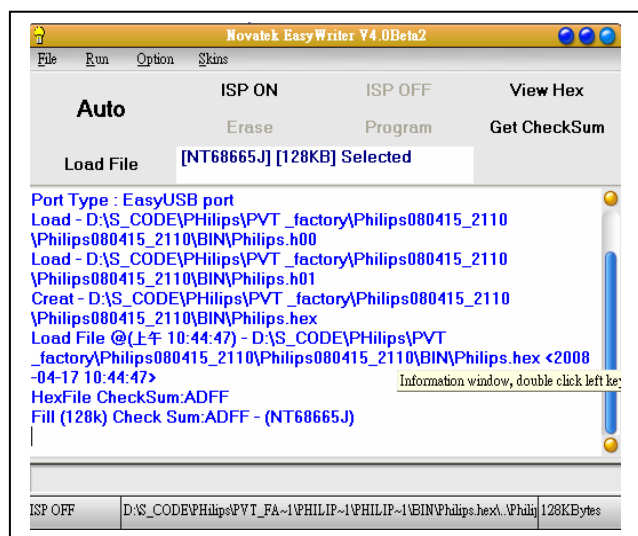

Fig. 5.
5. Press the "ISP ON" button ,then the dialog box will has the information "ISP ON",else has the information "ISP Fail".If the information is "ISP Fail ,check the connectivity ,then try it again as shown in Fig. 5.